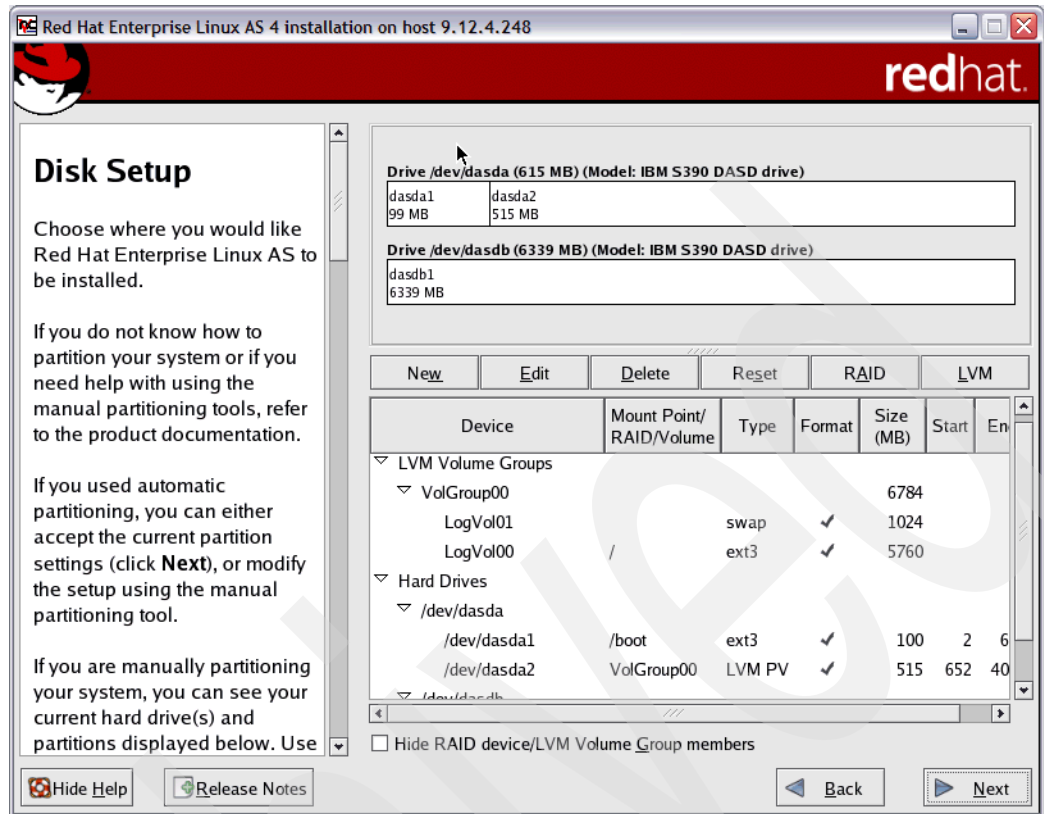

Figure E-7 Disk setup panel
- ▶ In our case, we chose **Automatically partition the disk space, using default options.** Figure E-7 on page 312 shows how the space will be automatically allocated by Red Hat.